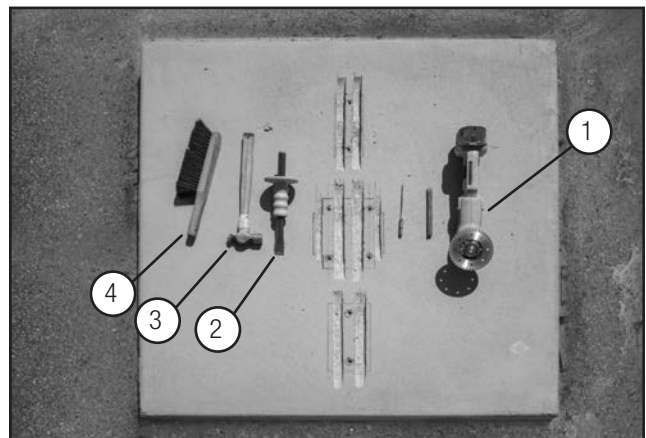

Figure 7-3 Finished Product
10. Cut the concrete perimeter first and then make small cross cuts. To minimize chisel use, use a diamond concrete cutting wheel. See **Figure 7-3**.
11. Use diamond concrete cutting wheel and chisel to remove large pieces of concrete after cutting. See **Figure 7-3**.